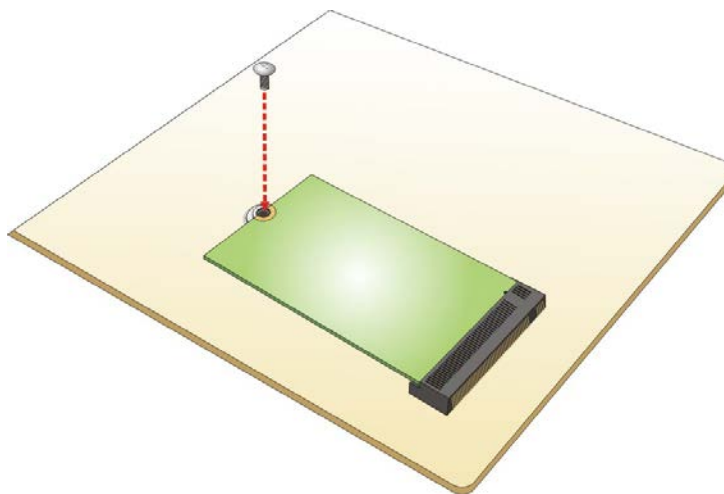

Figure 4-3: Securing the M.2 Module
Step 3: Secure the M.2 module with the retention screw (**Figure 4-3**).